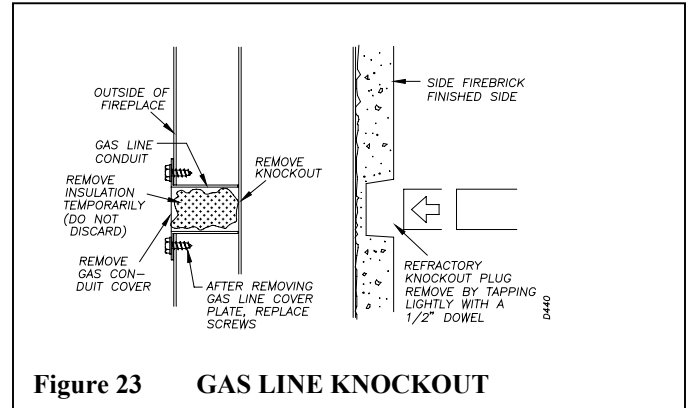

Figure 23 GAS LINE KNOCKOUT
STEP 1: To install, remove the knockout indentation on the refractory, (or firebrick), wall located above the refractory hearth floor. The knockout indentation must be firmly tapped with any solid object until it is released. Remove fragmented portions of refractory (see figure 23).